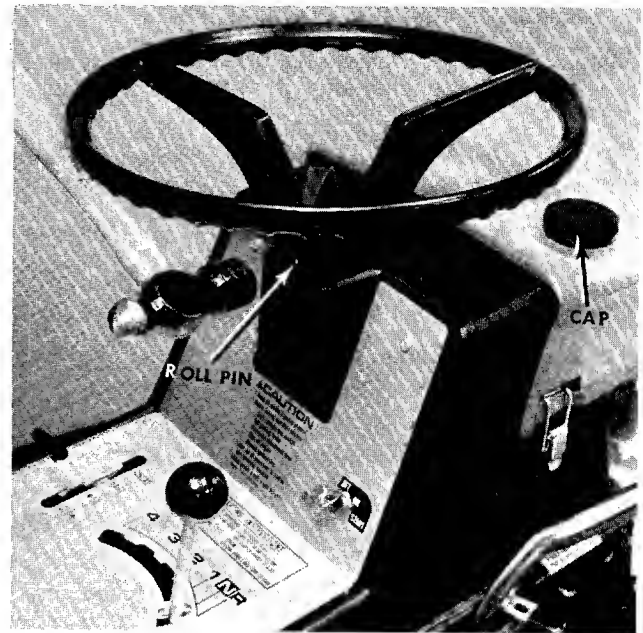

FIGURE 2. STEERING WHEEL ASSEMBLY
- Step 3. Drive in roll pin A with a hammer being careful not to hit the plastic steering wheel. See figure 2.
- Step 4. Press the cap on the steering wheel by hand. See figure 2.